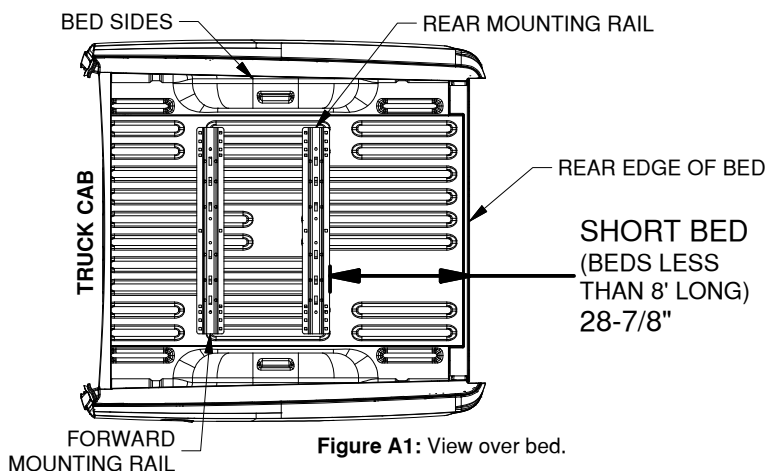

Figure A1: View over bed.
1. **Layout the rear mounting rail.** Place a mounting rail onto the bed of the truck. Hook a tape measure over the rear edge of the bed (not on any part of the tailgate), measure the location for the mounting rail as shown in Figure A1. Next, center the mounting rail in the bed by measuring the distance on either side from the edge of the rail to the sides of the bed. The rail will be centered when both measurements on either side of the rail are the same.